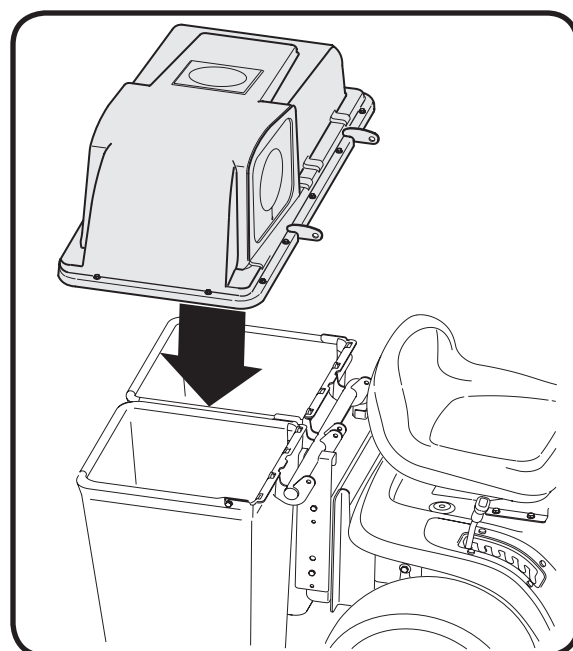

Figure 4-3
4. Place the grass bag cover on top of the grass bags and align the holes on the hinges of the grass bag cover with the corresponding holes on the support tube assembly. See Fig. 4-3.